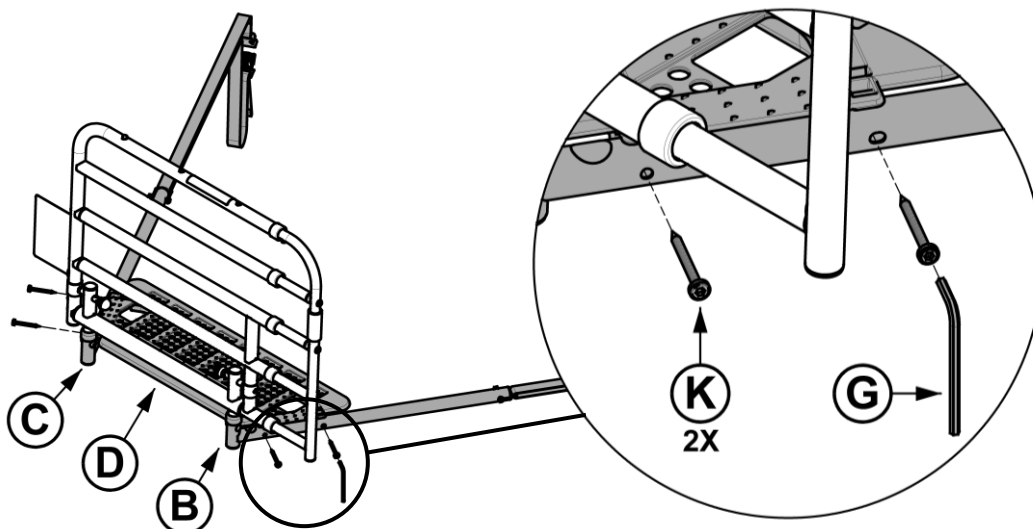

FIGURE 4
- Secure Safety Guard **D** to Legs **B** and **C** with Screws **K** (4x) using Tool **G**, as shown in *FIGURE 4*.